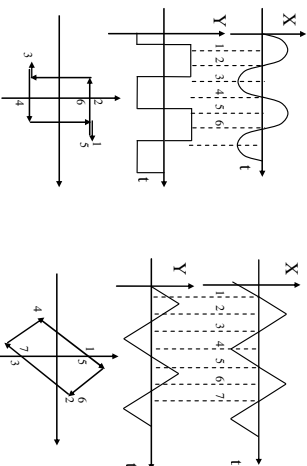

Fig. 4. Example of Lissajous figures
- XY mode – the spot moving on Ox axis of the screen is no longer commanded by the time base, but by the signal applied to the second input of the scope. For this working mode, it is necessary for the scope to have two inputs. If the two signals are periodic, with $T_y = M \cdot T_0$ and $T_x = N \cdot T_0$ (M, N integers), at intervals $T = M \cdot N \cdot T_0$, $u_x(k \cdot T)$ and $u_y(k \cdot T)$ have the same values (k integer). Therefore, the spot describes a closed curve called Lissajous figure (Figure 4).